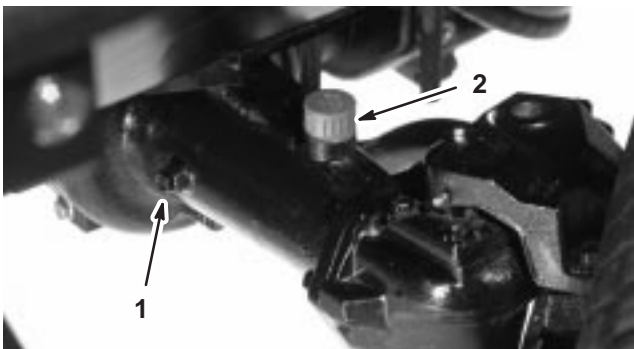

Figure 7
2. Remove a check plug from one end of the axle (Fig. 7) and make sure that the lubricant is up to the bottom of the hole. If the level is low, remove the fill plug (Fig. 7) and add enough lubricant to bring the level up to the bottom of the check plug holes.